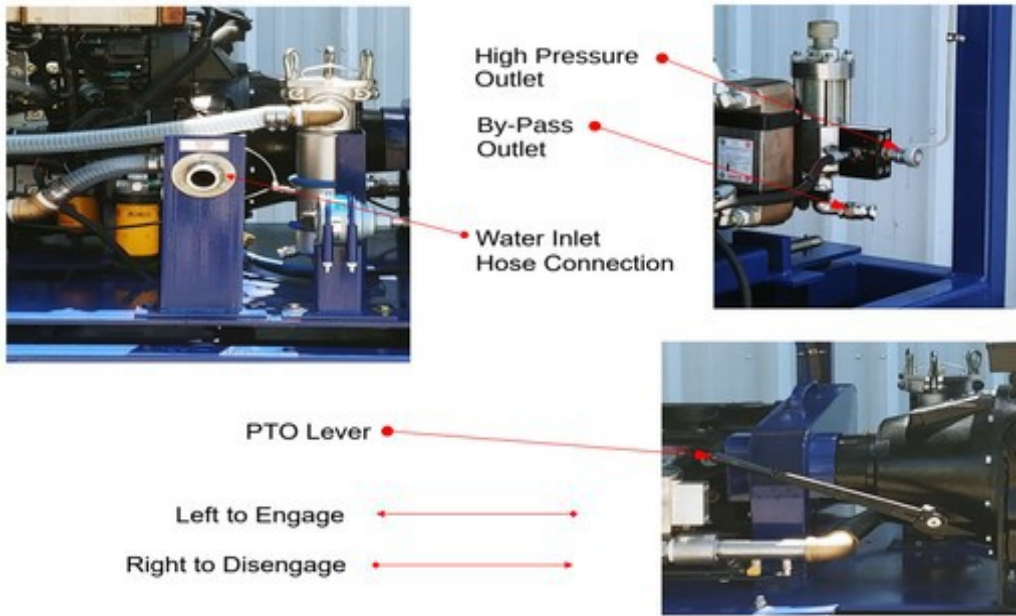

Figure 2.3 – PTO Lever & Hose Connections
5. Connect the pressure hose (See **Figure 2.3**)
The feed water inlet connection is located on the end panel (See **Figure 2.3**). A self-priming channel water pump is supplied to provide positive inlet water pressure to the main pressure pump. Two water supply conditions are acceptable for the CaviBlaster power unit.
1. Connect the cam-lock socket on the 1-1/2" feed hose to the water inlet connection on the end panel (See **Figure 2.3**).
2. Connect a 1-1/2" cam-lock socket on the water supply hose to the water inlet connection on the end panel (See **Figure 2.3**).
1. Locate the water supply tank so that the tank outlet is higher than the water inlet on the control panel (See **Figures 2.3 and 4.4**).